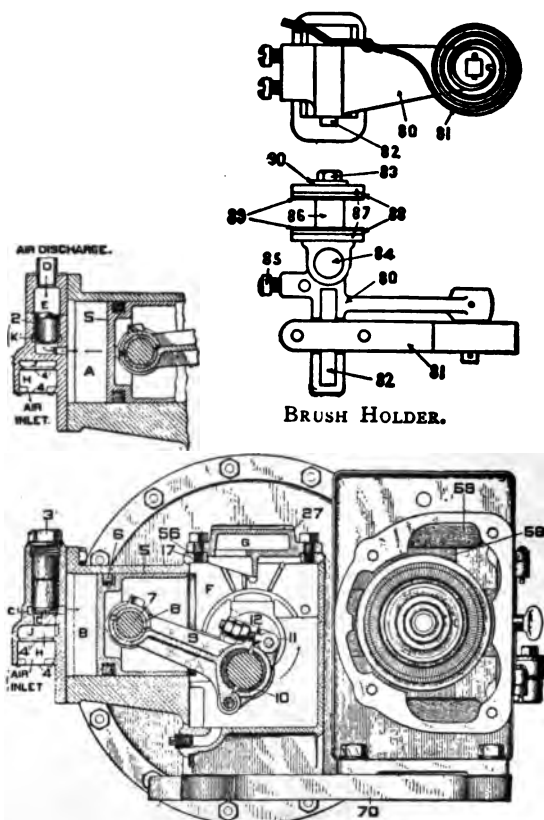

Fig. 527. Air Compressor on Motor Cars.
*Answer.* The outer perforated plate 4 (Fig. 527) covering the air inlet on the lower side of chamber H should be removed and the pulled curled hair taken out and thoroughly cleaned by beating in a bag, by the use of compressed air or some other efficient means. It may then be replaced and the outer perforated plate put back in place.